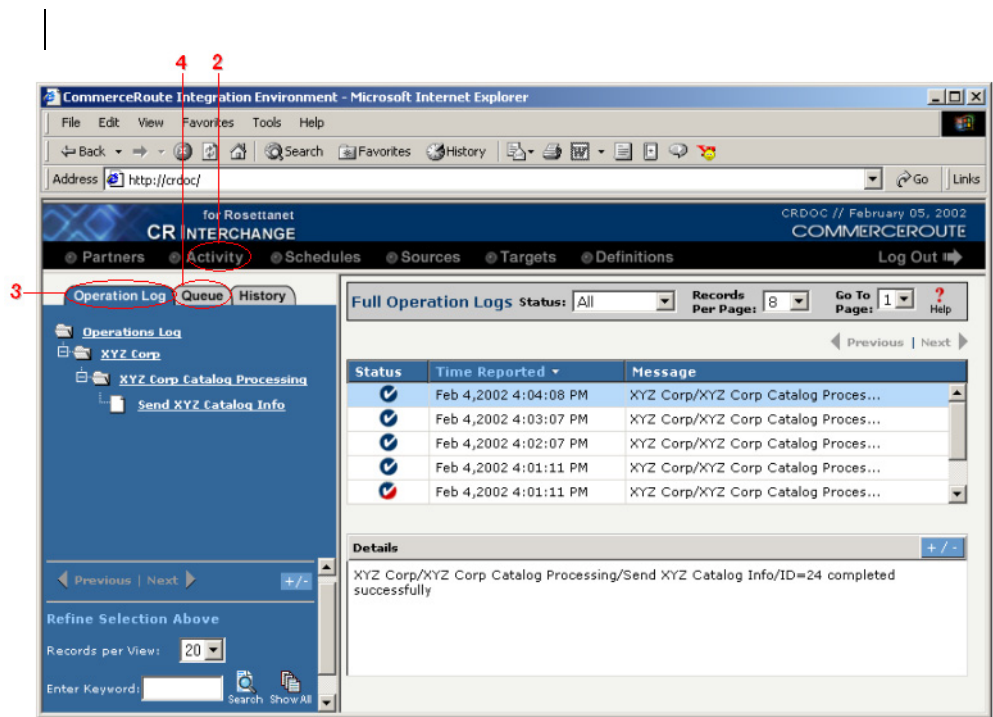

Figure 3-21. The System Log tab is where you can check the log of all operations that have completed, and which you have permission to see.
- ❶ Click the **Do Now**  button that is just to the left of the toolbar in the Operations screen. Doing so will immediately activate the operation, regardless of its schedule setting.
- ❷ Assuming that the Appliance is running, your operation will be picked up by the system: click on the **Activity** navigation button at the top of the screen (see Figure 3-21 below).
- ❸ You should be viewing the default tab, **Operation Log**. This is the log of all the completed operations that you can view (remember that depending upon your privileges, you might not have access to other partners' information). Look to see if your operation is at the top of the list.
- ❹ You can also click on the **Queue** tab in the upper-left corner of the screen. This tab displays the list of all the operations that are sitting in the queue, waiting to be activated by the server. Note that if your operation is here, you have an opportunity to cancel it before its job is processed. If you see your operation here and wish to cancel it, click the **Delete** button next to your operation entry.